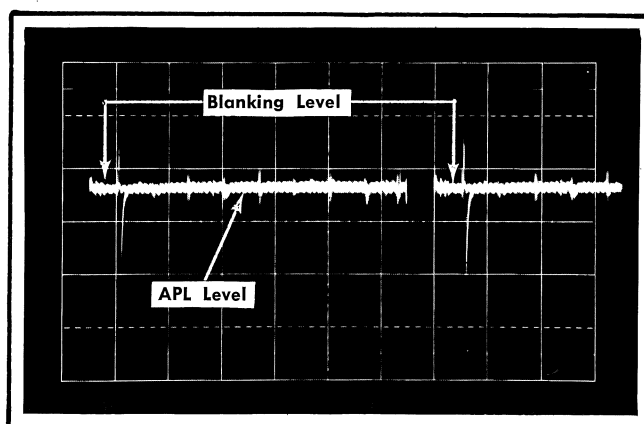

Fig. 5-11. Typical display with APL line superimposed on the blanking level to check APL amplitudes.
g. Observing the test oscilloscope display, rotate the 067-0596-00 calibration fixture V_2 Volts control until the blanking level is superimposed on the 20% APL line as shown in Fig. 5-11.
k. Observing the test oscilloscope display, rotate the 067-0596-00 calibration fixture V_1 Volts control until the APL line (as indicated by the APL switch setting) is superimposed on the blanking level as shown in Fig. 5-11.
v. Using the procedure just described for checking the 12.5, 20, and 27.5% APL switch settings, Fig. 5-11, check all remaining settings of the Type R141A FULL FIELD APL switch listed in Table 5-1.